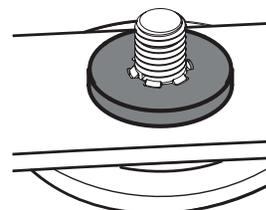

Figure 57
2. Carefully place the flat washer on the spindle shaft. Be sure that the splines at the base of the spindle shaft threads line up with the washer splines (Figure 57).